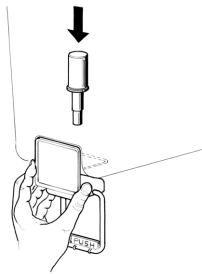

figure 5
3. Gravity faucet: install the faucet handle and the piston with its gasket (see figure 5).